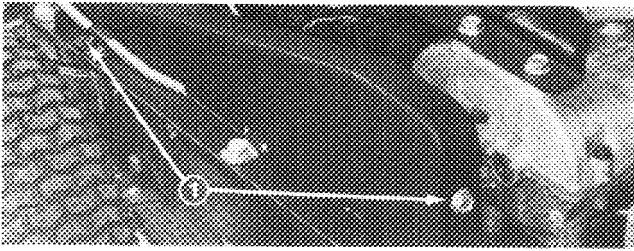

Figure 38
1. Remove two screws securing chain cover to rider chassis and transmission and lift off chain cover (Fig. 38).